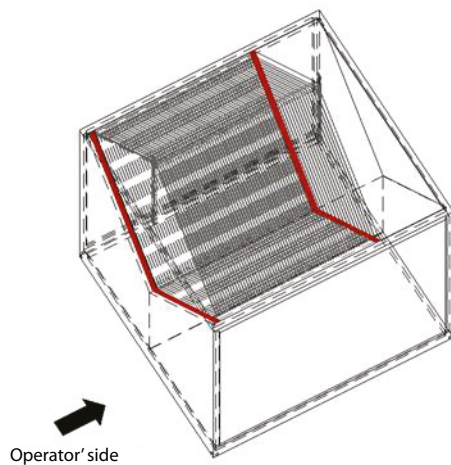

Figure 8 – Fixing of recuperator
- Seat the recuperator on the prepared seal, see Figure 8